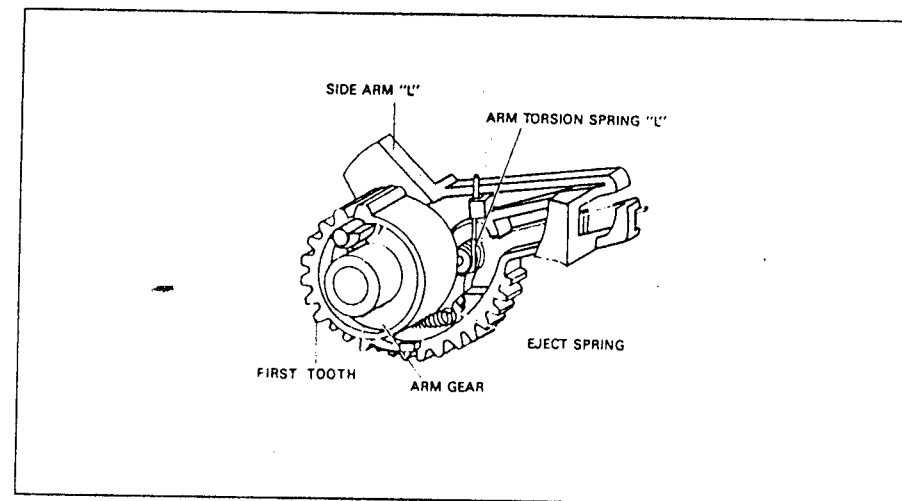

Fig. 21 Side Arm (L) Assembly Removal
14. Side Arm (L) Assembly Remove. (Fig. 21)